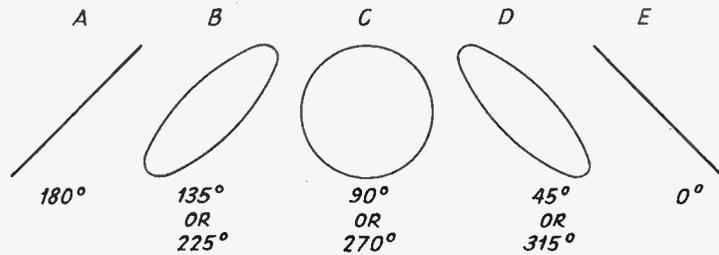

FIG. 1
When the phase difference between two voltages is to be measured one voltage is impressed on the horizontal and the other on the vertical deflection plates. They should be adjusted so that their deflection effects are equal, which is not necessarily the same as equality of the voltages. It can then be shown that figures such as those shown in Fig. 1 will be traced on the screen.
The figures illustrated in Fig. 1 are for the case of two equal effective voltages on the two sets of deflection plates. If the voltages are unequal the central figure will also be an ellipse but its axes will be vertical and horizontal. The straight lines will remain straight and the in-
Let  $x = -E \cos \omega t$  be the voltage applied to the horizontal plates and let  $y = E \cos(\omega t + \theta)$  be that applied to the vertical plates, where  $E$  is the amplitude, as seen on the fluorescent screen,  $\omega$  the  $2\pi$  frequency of the voltages,  $t$  the time, and  $\theta$  the phase difference between the two. The minus sign is used with the horizontal deflection expression to account for the fact that the patterns are viewed facing the beam rather than looking with it. The signs agree with the patterns in Fig. 1, which have been observed experimentally.
If we let  $\theta$  equal zero in this equation we get  $(x + y) = 0$ , which is an equation for a straight line with a slope of 135 degrees, as illustrated at the extreme right in Fig. 1. If we let  $\theta$  equal 180 degrees we get  $(x - y) = 0$ , which is the equation of a straight line with a slope of 45 degrees, as shown at the extreme left in Fig. 1. If we let  $\theta$  equal 90 or 270 degrees the equation reduces to  $x^2 + y^2 = E^2$ , which is that of a circle as illustrated in the center of Fig. 1. The equations for the ellipses are obtained from the general formula by substituting the indicated angles.
When one first examines the patterns in Fig. 1 one is likely to assume that the axes of the ellipses turn as the phase angle varies. This is not the case, as the equations clearly show. What happens is that the ellipse grows about an axis until it becomes a circle and then it diminishes again until it becomes a line. The process may be looked upon in another light. At left in Fig. 1 a plane circular figure is viewed on its edge. The circle then gradually rotates about a line in its original plane until the plane has been turned 90 degrees from the original position. At this instant the line of rotation is changed through 90 degrees. About the new axis the circle continues to rotate until it again is seen as a line. However, no matter in what way the change of the pattern occurs, equation (5) gives the phase angle difference between the two voltages impressed on the deflection plates in terms of two quantities measurable on the fluorescent screen.